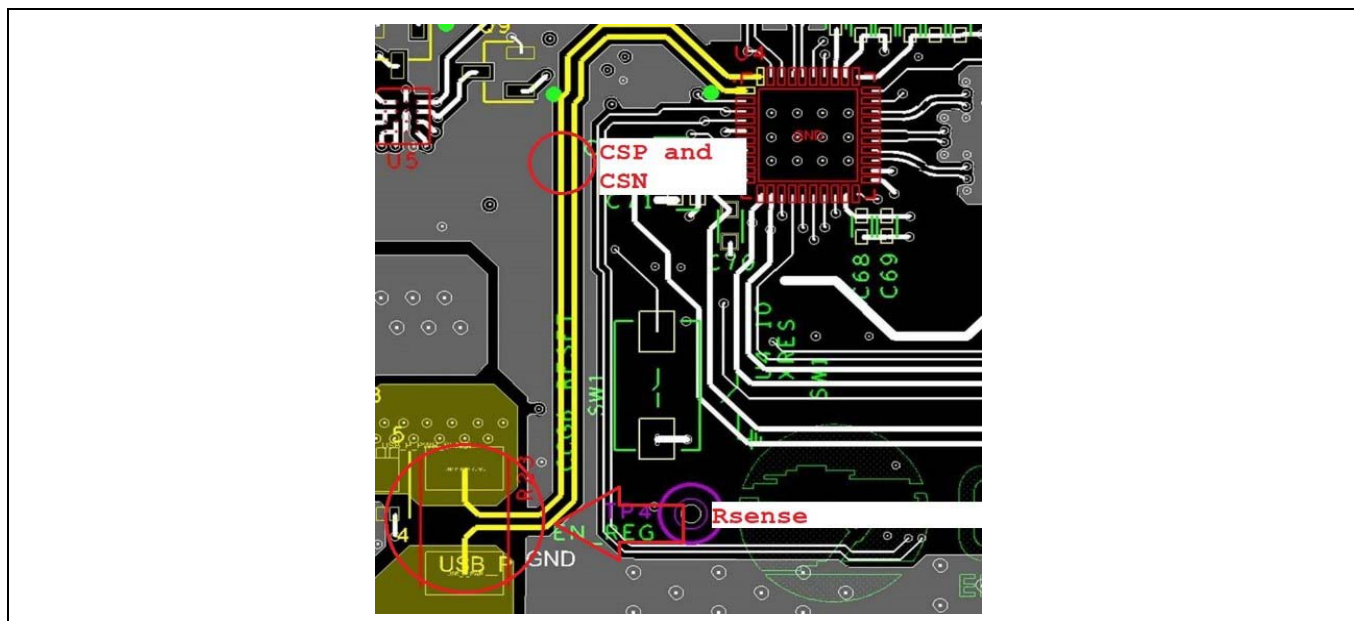

Figure 10 Routing of CSP and CSN traces to Rsense resistor
- The signals must be routed as differential pair to the external Rsense resistor, as shown in Figure 10